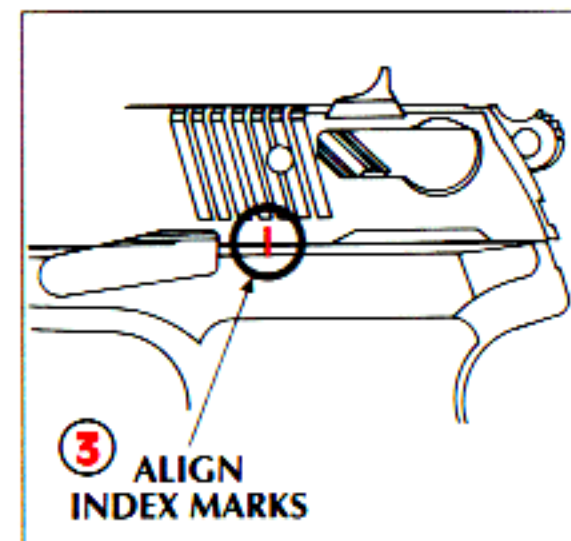
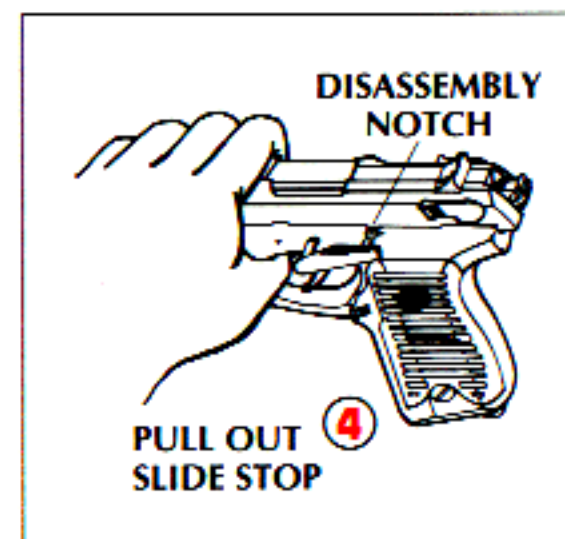

FIGURE 4
FIGURE 5
- Remove fingers from ejection port. Grasp slide tightly. Now press down on slide stop and allow slide to move slowly forward until the vertical disassembly line on the frame is aligned with the vertical disassembly line on the slide (See Figure 4, below). Press in on right-hand end of slide stop and pull slide stop out of frame to the left until it is withdrawn completely out of the frame. (See Figure 5, below).